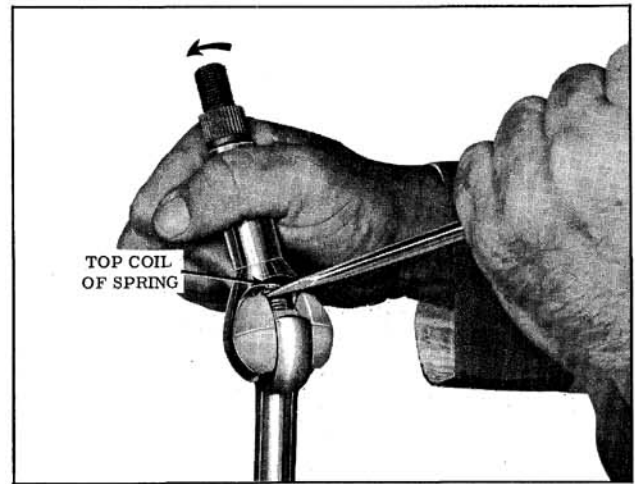

Fig. 8-103 Removing Spherical Joint Spring
4. Using a narrow bladed screwdriver through the coils of the spring, compress spring enough to remove the upper end from the upper seat. (Fig. 8-103)